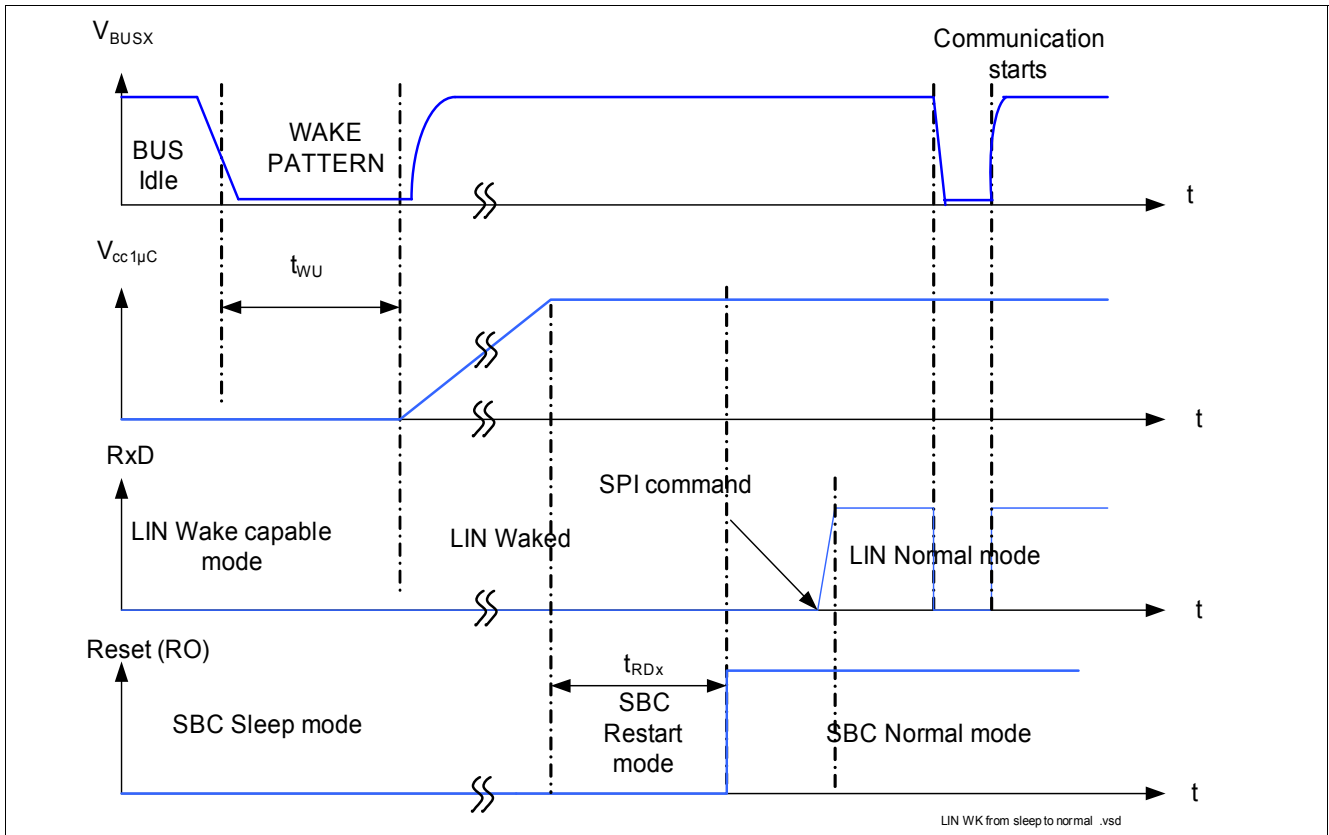

Figure 19 Timing during Transition from SBC Sleep to SBC Normal Mode
Wake-up is possible via a LIN message (filtering time  $t > t_{WK,bus}$ ), it automatically transfers the SBC into the SBC Restart Mode and from there to Normal Mode the corresponding RxD pins in set to LOW, see Figure 19. The microcontroller is able to detect the low signal on RxD and to read the wake source out of the “Wake Register Interrupt” register (000) via SPI. No Interrupt is generated when coming out of Sleep Mode. The  $\mu$ C can now switch the CAN transceiver into LIN Normal Mode via SPI to start communication.